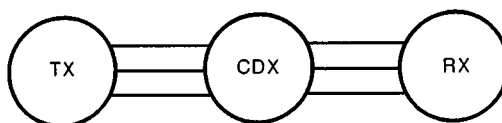

Figure 7-13
The synchro system is usually made up of 3 elements. The 3 elements are a synchro transmitter (TX), synchro differential transmitter (CDX), and a synchro receiver (RX). A basic synchro system block diagram is shown in Figure 7-13.